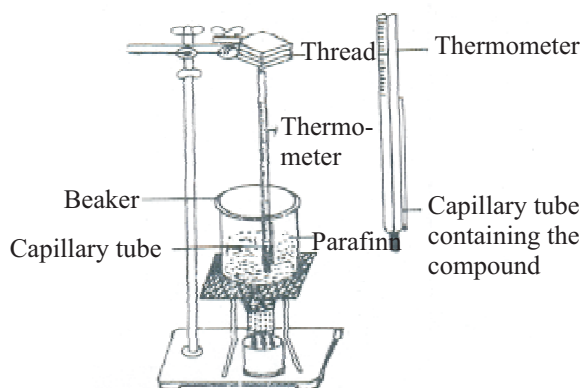

Fig. 2.1: Sealing of Capillary tube **Fig. 2.2:** Determination of melting point
- (1) Take a glass capillary tube of about 5-6 cm in length and seal one end of it. This is done by heating the tip of tube with the side of the flame of the Bunsen burner. The end of the capillary tube melts and seals itself. It is indicated by the formation of a small glass bead at the tip. Fig 2.1.
- (2) Take a small quantity of a solid (about 50 mg) in watch glass, powder it by crushing it with the help of a spatula.
- (3) Fill the powdered substance in the capillary tube upto about 1 cm height. This is done by pushing the open-end of the capillary tube into the heap of powdered substance kept in a watch glass. Now drop the capillary tube with the sealed end down through a glass-tube (25-30 cm length) kept vertically on a plane surface so that the powder reaches the closed end of the capillary.
- (4) Take a beaker of 100mL capacity. Fill it nearly half with paraffin oil. Place this beaker (paraffin bath) over a wire gauze kept on a tripod stand.